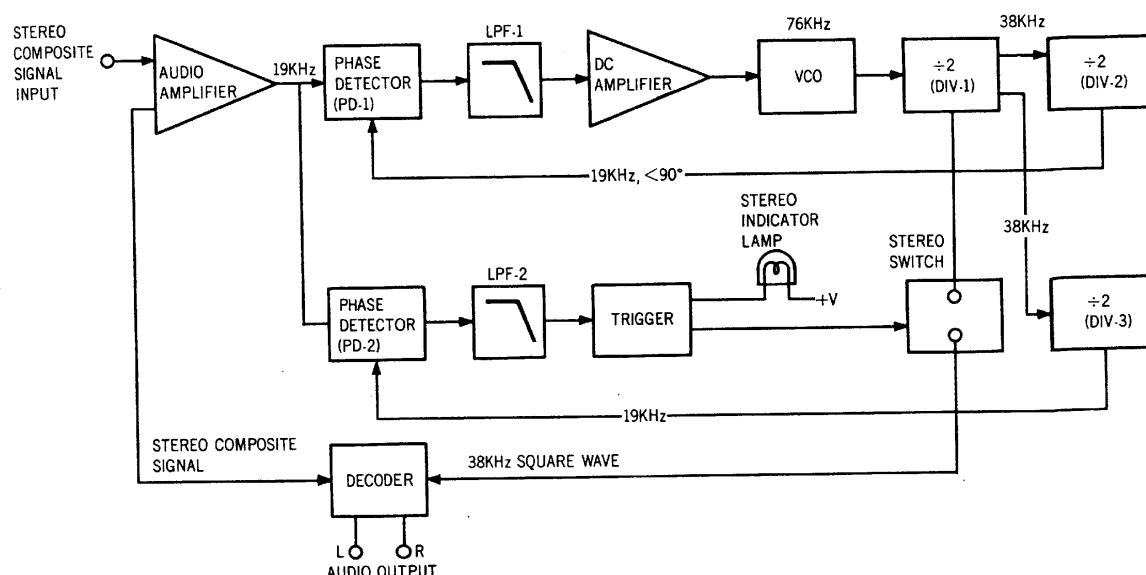

Figure 2. Block Diagram of the HA1156
The stereo composite signal from the FM Detector undergoes phase compensation by R289 and C255, is led through the muting switching FET H212 to the input terminal pin ② of the MPX stereo decoding IC H215 on PLL (Phase Locked Loop) basis, and is decoded into the left and right stereo signals, which become available at pins ④ and ⑤ respectively. These decoded left and right stereo audio signals are introduced through the low pass filter consisting of L207 to L210 and C273 to C282 for elimination of undesirable residual switching signal and through the de-emphasis network consisting of R308, R309, C283 and C284, into the npn-pnp direct coupled audio amplifier, where the signals are amplified to a required level for the output from J226 and J227. From these jacks, the audio signals are led through the function switch and FM Dolby level preset resistors RS03 and RS04 to the output terminals on the rear panel. Figure 2 presents an internal block diagram showing the functions of the PLL basis MPX stereo decoding IC HA1156.